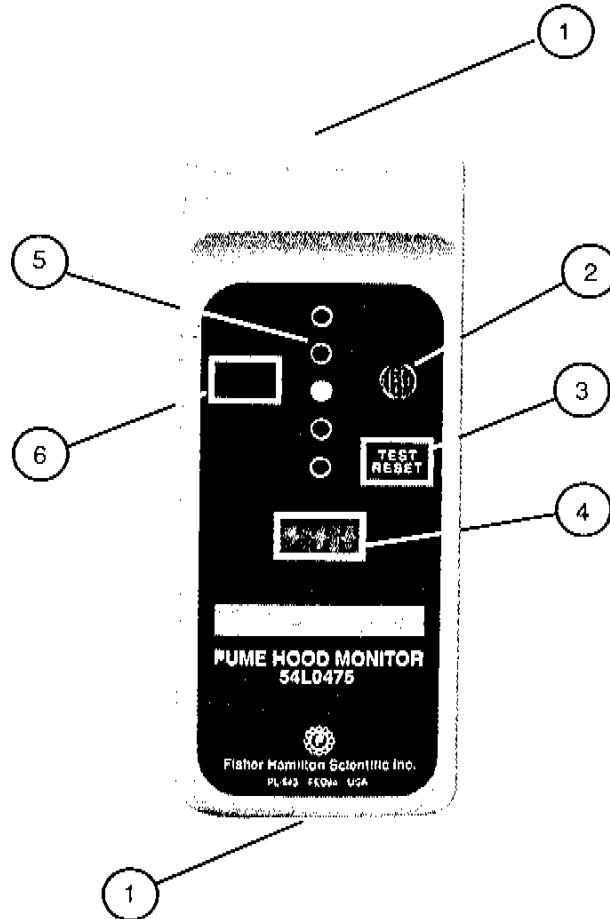

Figure 1.
Table 1. Description of the Front of the Monitor, reference figure 1.
- Step 1: Detach the back plate from the monitor by unscrewing the top and bottom screws (figure 1, item 1).
- Step 10: Secure the monitor to the back plate using a screw on the top, and a screw at the bottom (figure 1, item 1). If front power cord routing is used, be careful to place the cord into the notch provided in the bottom of the front cover before securing the screws.